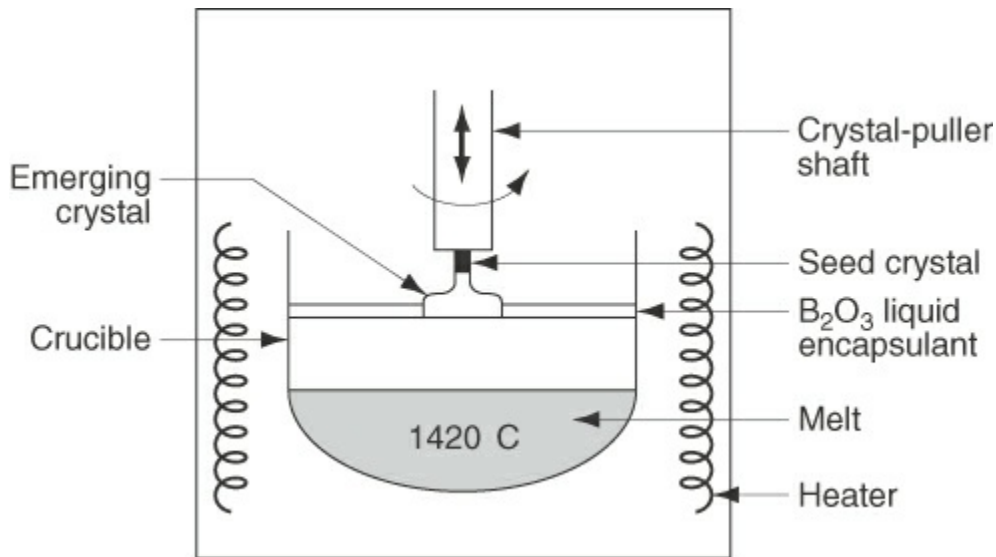

Figure P3.2.18
****3.2.18** Silicon rods used in the manufacture of chips can be prepared by the Czochralski (LEC) process in which a cylinder of rotating silicon is slowly drawn from a heated bath. Examine Figure P3.2.18. If the initial bath contains 62 kg of silicon, and a cylindrical ingot 17.5 cm in diameter is to be removed slowly from the melt at the rate of 3 mm/ min, how long will it take to remove one half of the silicon? What is the accumulation of silicon in the melt? Assume that the silicon ingot has a specific gravity of 2.33.